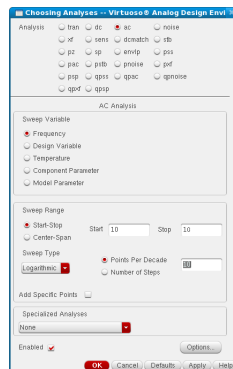

Figure 21: AC analysis properties
4. On the left side menu add a new test. For Analysis select “ac”, Sweep Variable select “Frequency”, and Sweep range: start at 10 and stop at 1G with a sweeping type of Logarithmic and 10 points per decade. Enable it and hit OK. This is shown in figure 21.